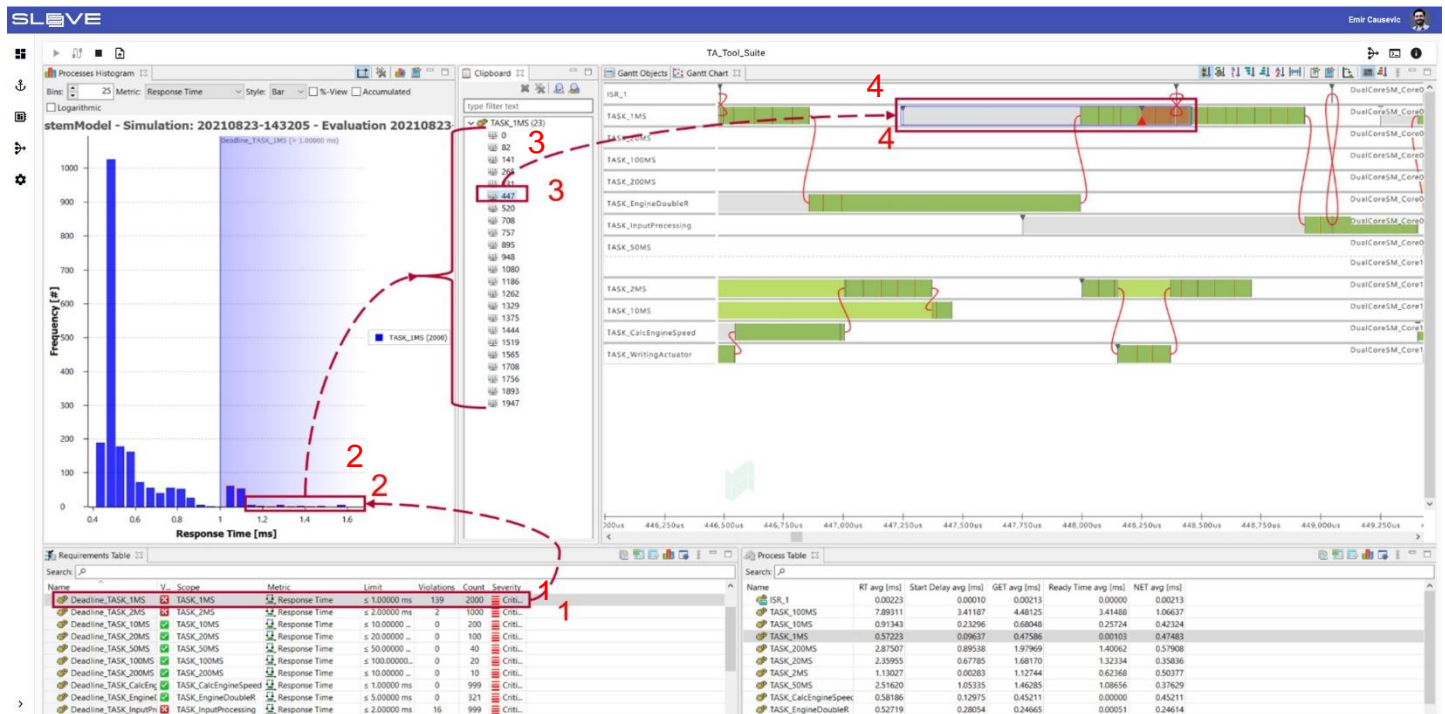

Figure 3: Analysis of recorded Trace in TA Tool Suite
Figure 3 shows an example, where a constraint ( $\leq 1\text{ms}$ ) was set to verify the response time of "TASK\_1MS". The constraint table (1) shows that the constraint was violated 139 times in 2000 total occurrences. Now we can use the histogram (2) to see the violated instances and directly jump to the corresponding instances (3) in the GANTT chart (4) to understand why the 1ms constraint is not kept.